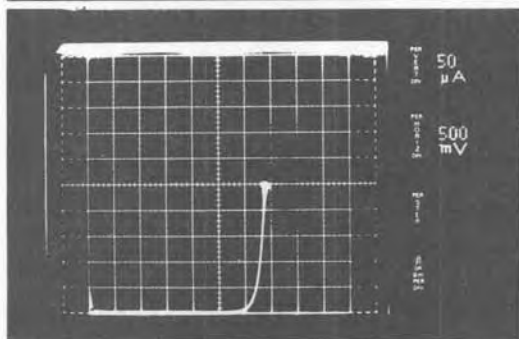

Figure 4. Gate-Source Threshold Voltage ( $V_{GS(th)}$ )
10. Connect the device using the LEFT/RIGHT switch. Increase the VARIABLE COLLECTOR VOLTAGE until the drain current reaches  $250 \mu A$  as indicated by the trace on the screen. Read the voltage on the horizontal center line (since this line corresponds to  $I_D = 250 \mu A$ ). (See Figure 4.)